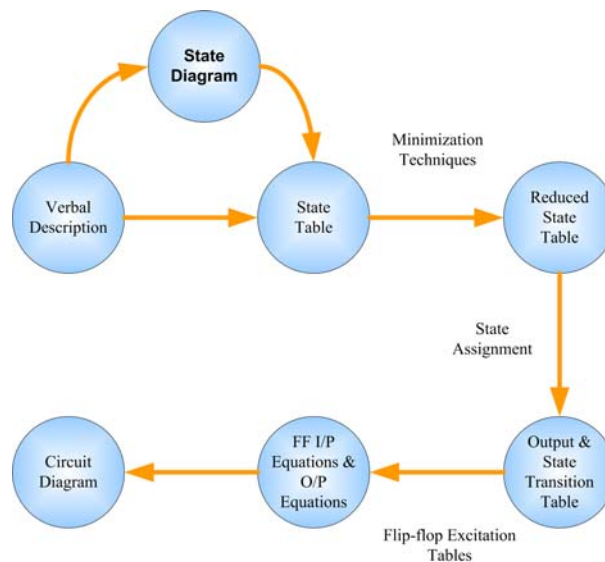

Figure 1: Sequential Circuit Design Steps
- The design of sequential circuit starts with verbal specifications of the problem (See Figure 1).